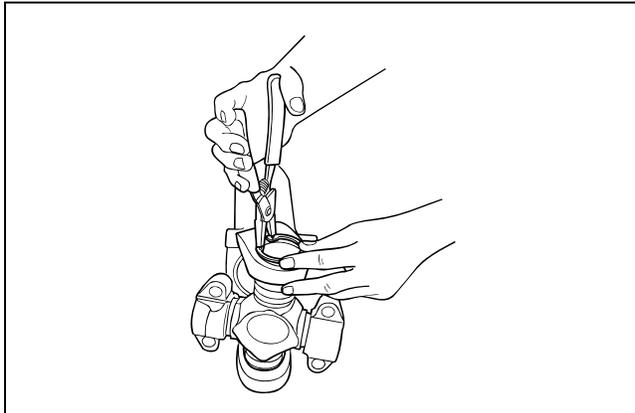

Figure 4.38
9. Use snap ring pliers to install the second snap ring into the snap ring groove. Figure 4.38.